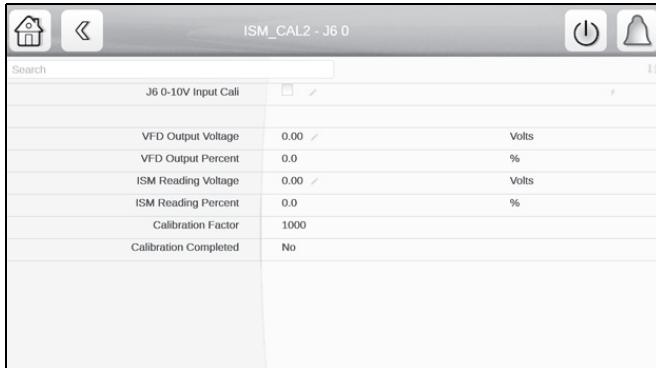

Fig. 47 – ISM_CAL2 Screen
- Select J6 0-10V Input. The ISM_CAL2 screen is displayed. See Fig. 47.